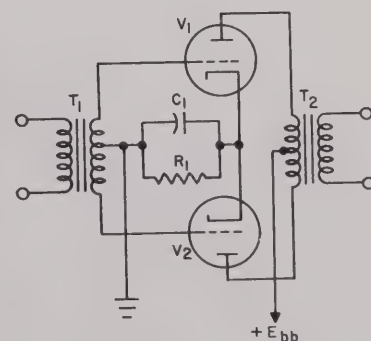

Figure 22
The push-pull circuit of Figure 22 is often used to obtain increased power output from a stage, with less distortion than can be obtained from two tubes in parallel. Using the center tap on the secondary of input transformer T_1
56. In Figure 22, the signal voltage applied to the grid of V_1 is 180° out-of-phase with the signal applied to the grid of V_2 because of (a) the C_1R_1 network, (b) the T_1 secondary center tap, (c) the T_2 primary center tap.